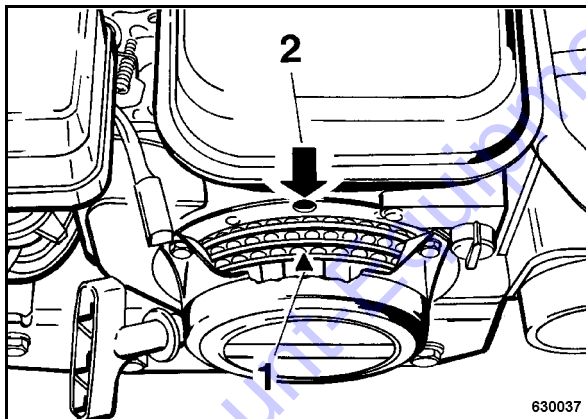

Fig. 52
- For this purpose align triangle mark (1) (Fig. 52) on the starter disc to the top bore (2).